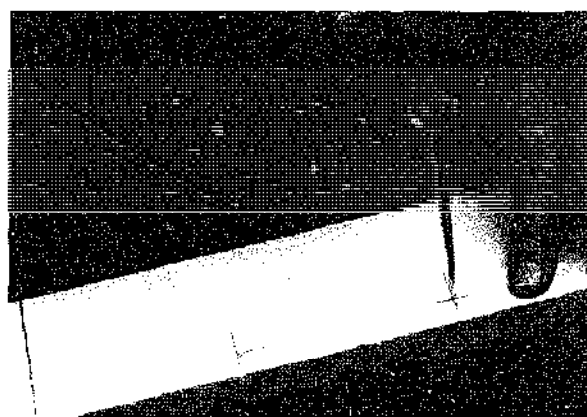

Fig. 10-11 Marking with a scratch awl.
1. Locate the position of the hole with two intersecting lines (figure 10-11).